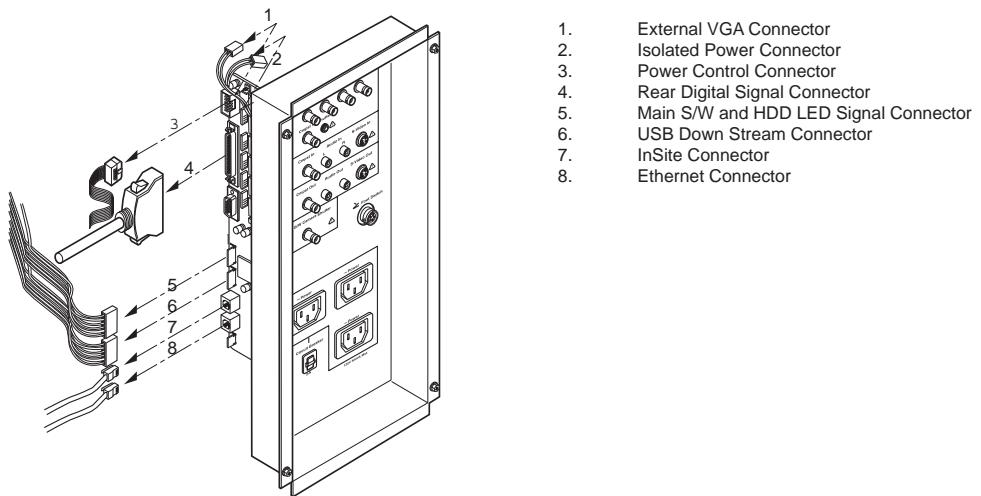

Figure 8-69 Disconnecting 8 Connectors
- 7.) Disconnect 8 connectors (1-8) from the left side of the Panel. Refer to Figure 8-69.